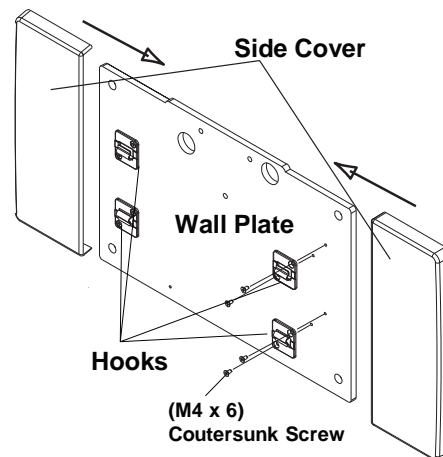

Fig.3-10 Side Cover Installation
2. Slide in the side cover from right and left side of the wall plate as the hooks catch the side covers. (**Fig.3-10**)